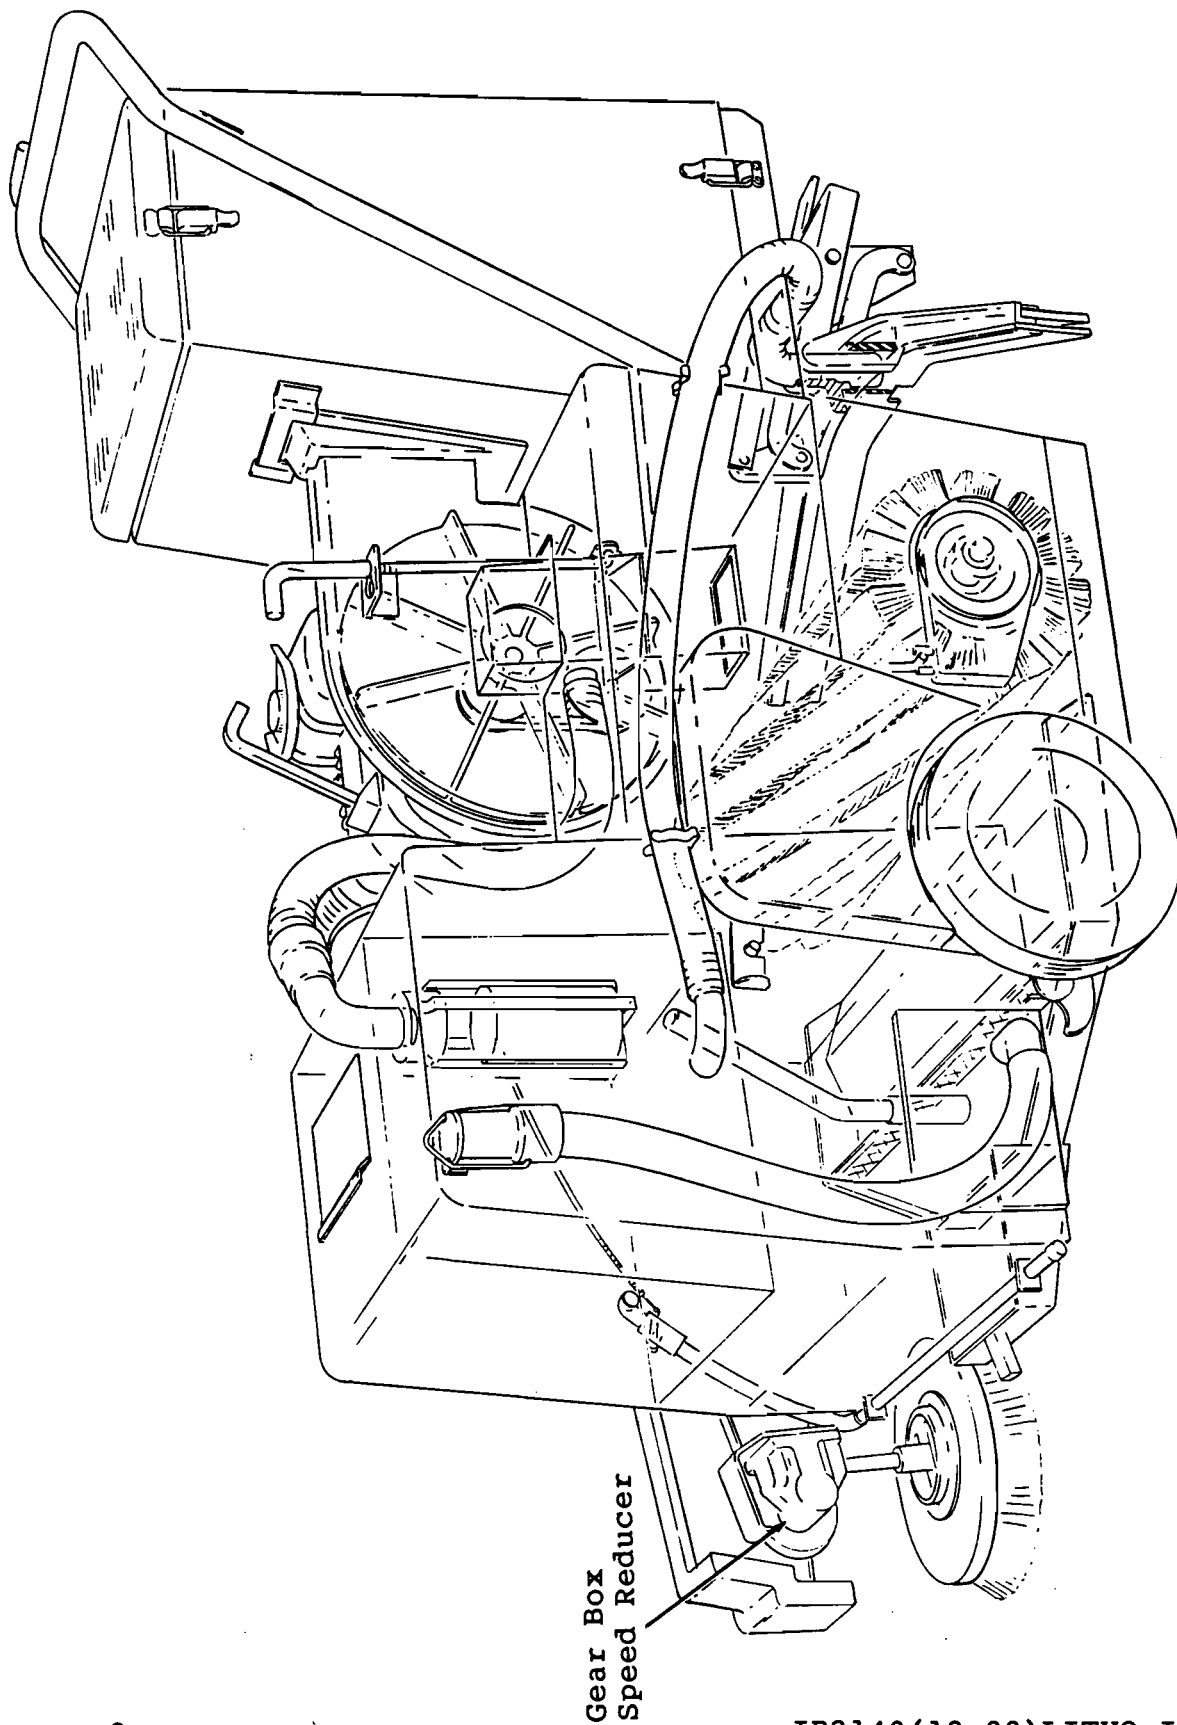

Fig. 1 - PHANTOM VIEW OF 42 HD SCRUBBER SHOWING GEAR BOX LOCATION
3. Remove the (4) retaining bolts holding the gear box to the side brush arm. Install the new gear box using the existing hardware. See Fig. 1. Reinstall the scrub brush.